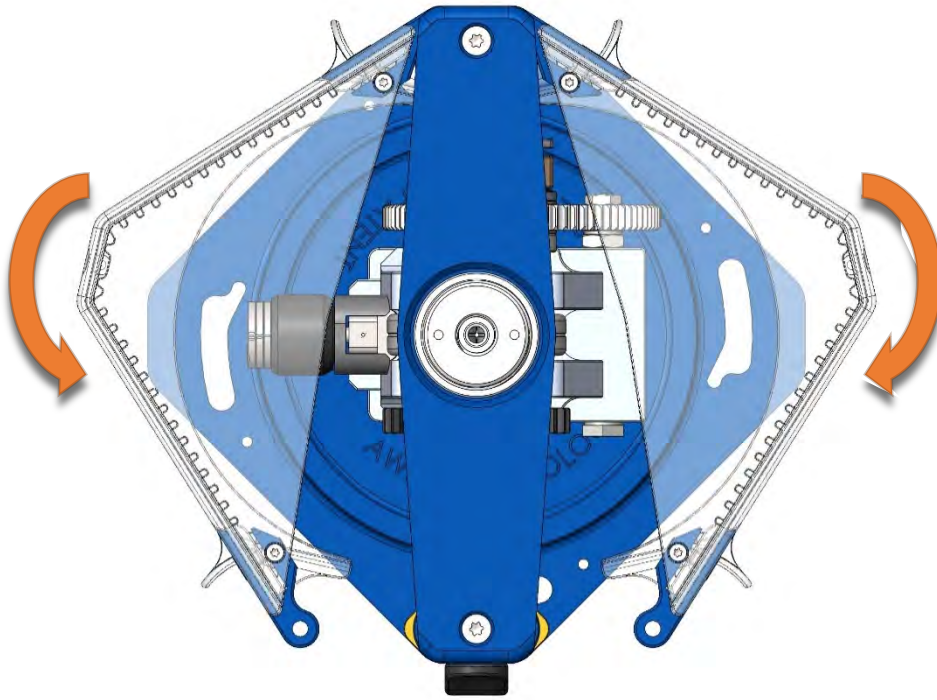

Figure 17
- To close the side doors, you need to push them, applying moderate pressure in the final phase, to allow the locking mechanism to engage. Figures 17 and 18;